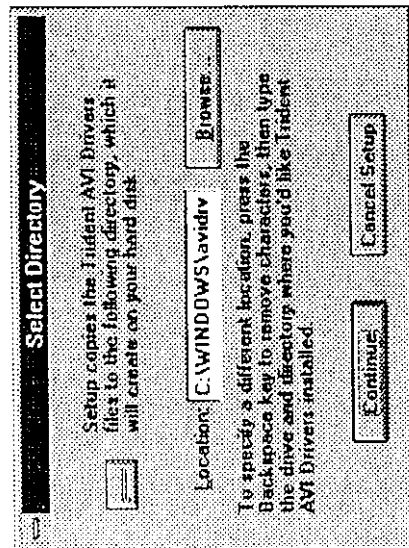

Figure 3-17.
6. The next screen will place Trident AVI Drivers in the directory "C:\WINDOWS\AVIDRV". Change the path only if another directory is desired (see Figure 3-17). Click on "continue" to complete the installation process of Trident AVI Drivers.